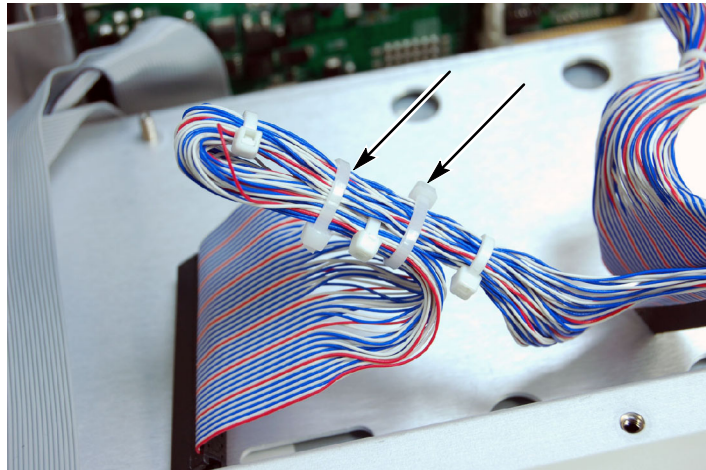

Figure 28: IDE cable secured with cable ties
7. Wrap the black end connector back against the IDE cable and secure with two cable ties (part number 343-0549-xx). See Figure 28.